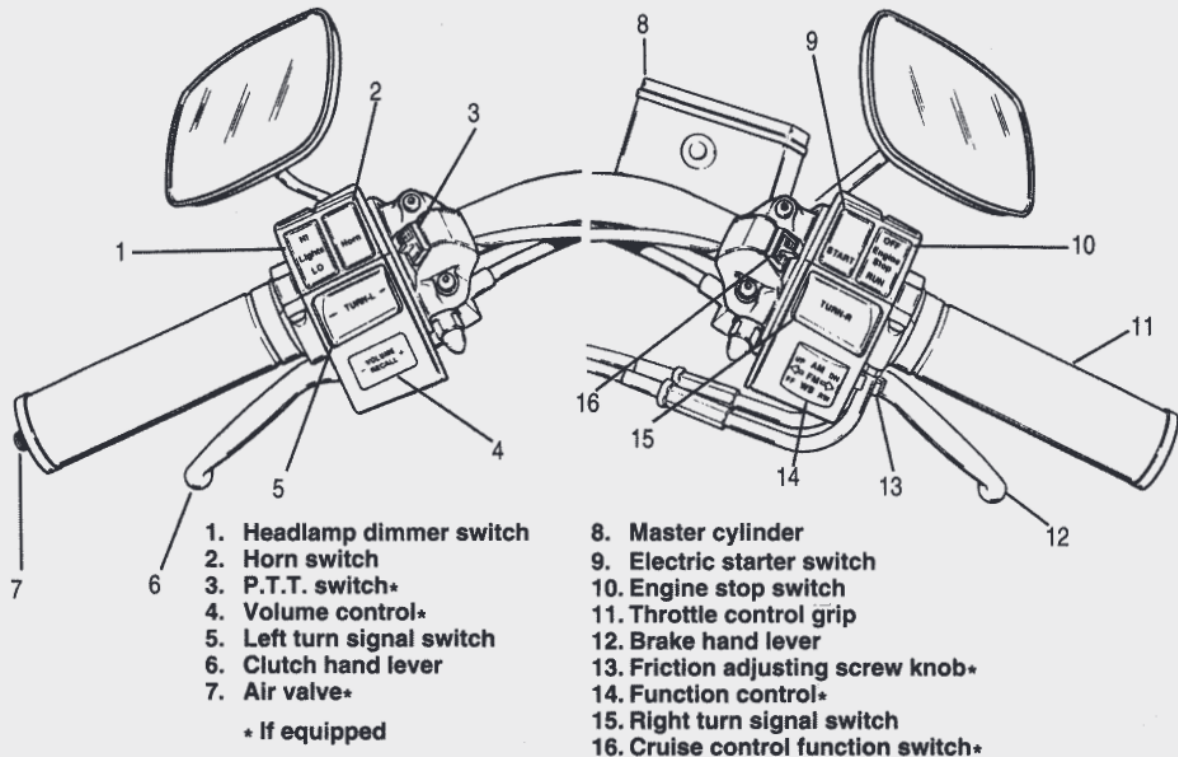

Figure 2. Handlebar Controls
See Figure 2. The electric starter switch (9) is located on the right handlebar control group. Put engine stop switch (10) in RUN position and transmission in neutral. Turn ignition ON and push the START switch to operate starter motor.
See Figure 2. Engine stop switch (10) is located on the right handlebar control. The engine stop switch turns ignition ON or OFF and should be used at all times to stop the engine, especially in an emergency. To stop engine, push switch to position marked OFF - then turn key to OFF.
See Figure 2. The throttle control grip (11) is located on the right handlebar control group. Turn control grip clockwise to close throttle; turn control grip counterclockwise to open throttle.
See Figure 2. The clutch hand lever (6) is located on the left handlebar where it is operated with the fingers of the left hand. Pull lever in against handlebar grip to disengage clutch; release the lever slowly to its outward position to engage clutch.
The brake pedal controls the rear wheel brake and is located on the motorcycle's right side. It is operated by the right foot. See Figure 2. The brake hand lever (12) controls the front wheel brake and is located on the right handlebar. It is operated by the fingers of the right hand.
See Figure 2. The horn is operated by the horn switch (2) on the left handlebar control group.
See Figure 2. The headlamp dimmer switch (1) on the left handlebar controls the headlamp high and low beams.
## Controls (Figures 2 and 5 and Table 2)